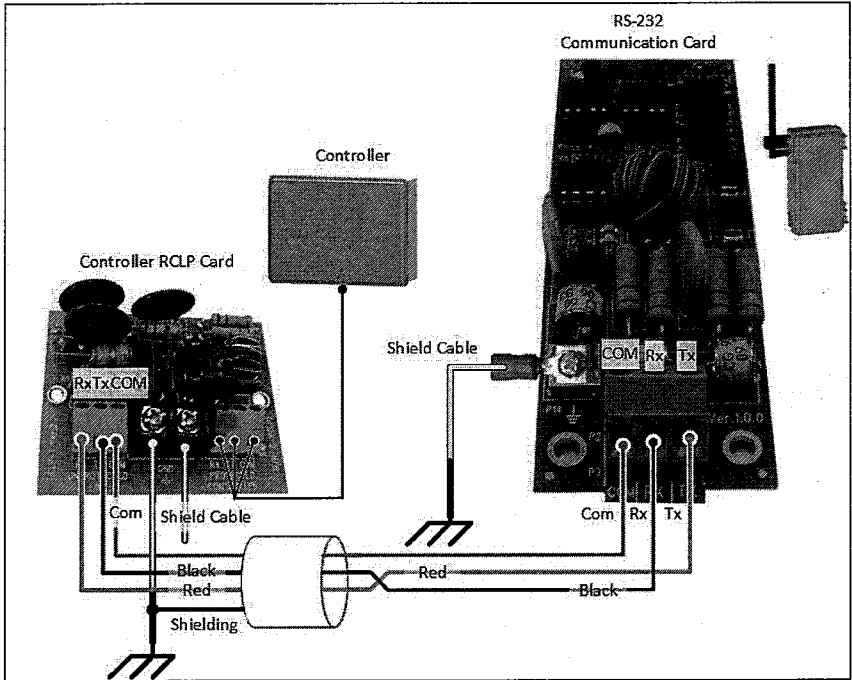

**Figure 18: Wiring an RLINK to a RS-485 Communication Card (Isolated COM)**
- Make a proper safety GND connection to the C-RS485-AD card at RLINK. Refer to Figure 15 - Figure 18.
- Figure 18: Wiring an RLINK to a RS-485 Communication Card (Isolated COM)
**CAUTION** Connect the shield cable of each controller to the ground strip on one side only (Figure 18)!